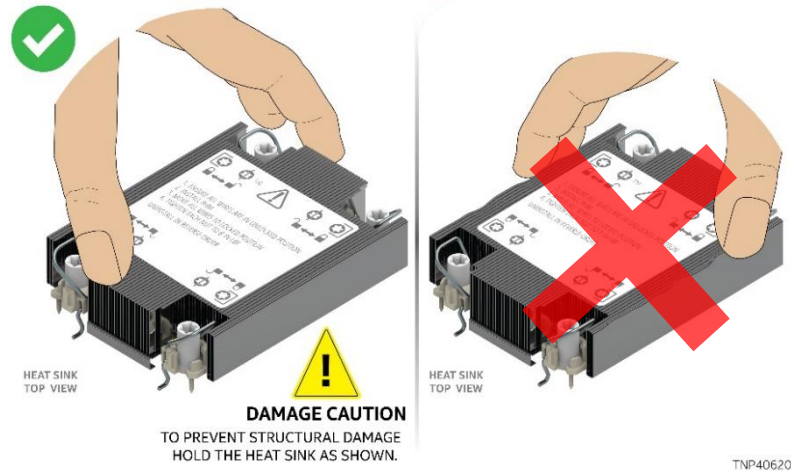

Figure 11. Processor Heat Sink Handling
1. Locate the processor heat sink. To avoid damage, grasp it by its narrower sides as shown in Figure 11.